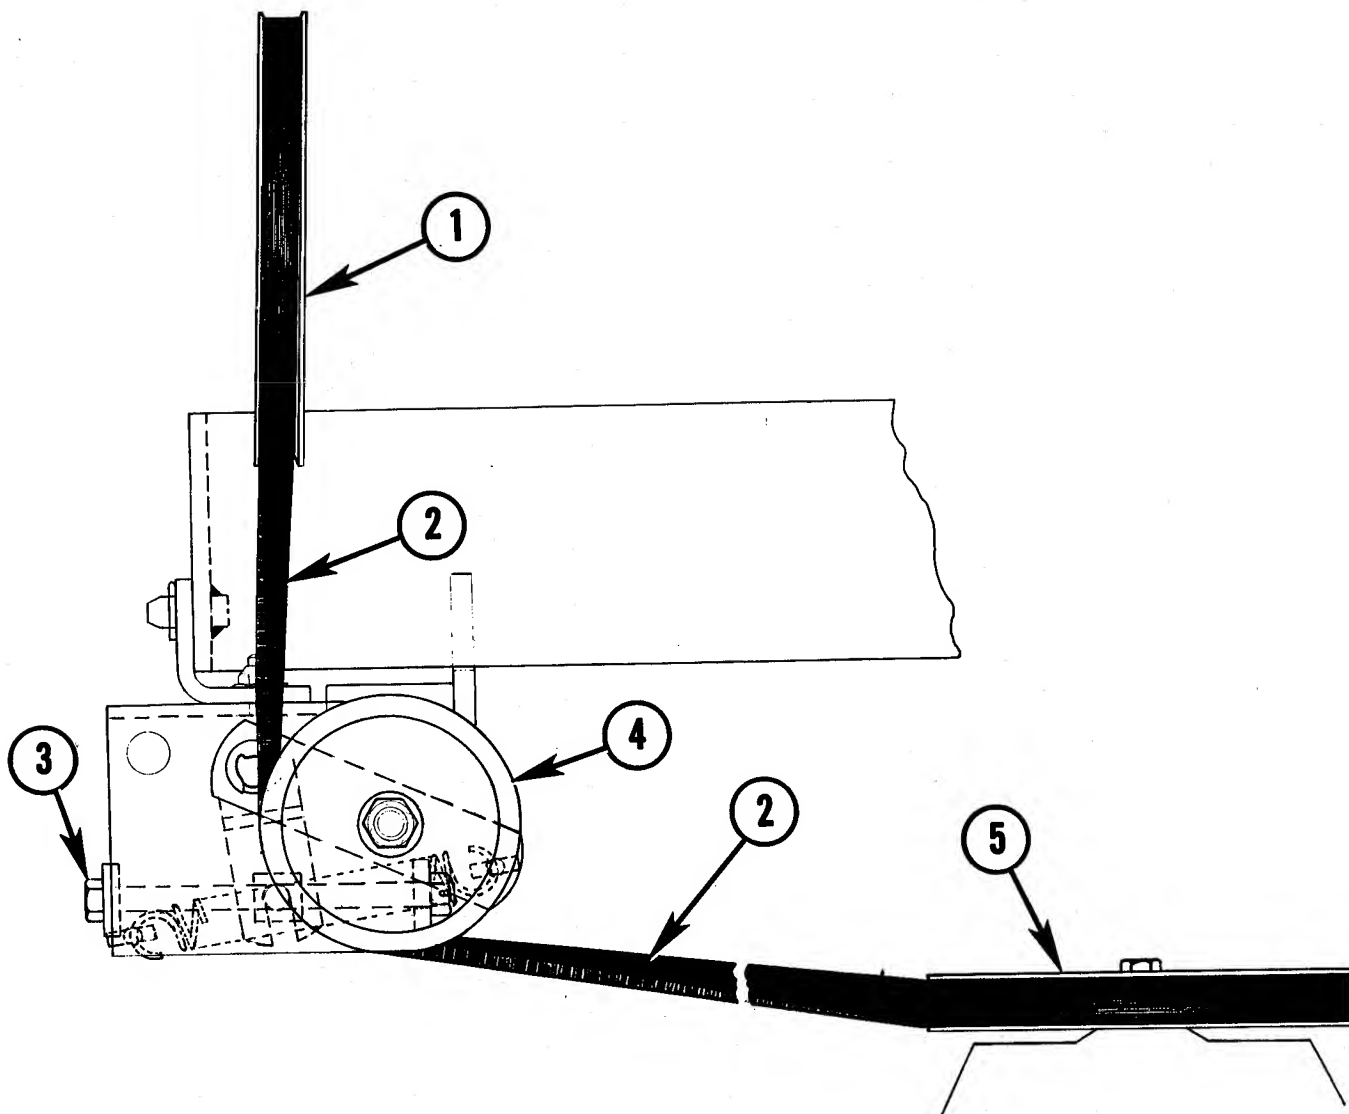

Fig. 40 — Mower Installation
10. Rotate bolt, No. 6, counterclockwise and install belt, No. 2, over left pulley, No. 7, then around pulley, No. 5, Fig. 40, on mower.
2. Rotate adjusting bolt, No. 3, Fig. 40, counter-clockwise to relieve belt tension.
4. Remove belt from left pulley, No. 7, from pulley, No. 5, Fig. 40, on mower and from pulley, No. 1.